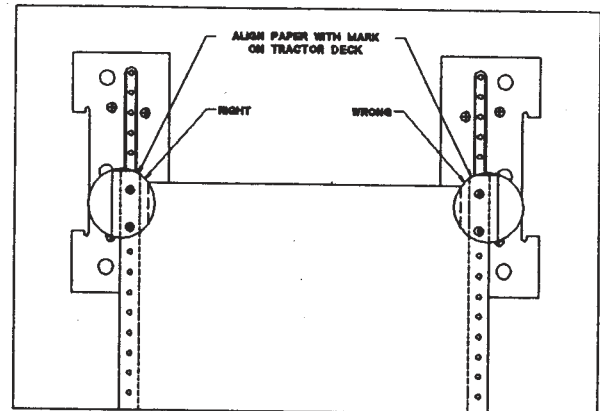

Fig. 8
7. Lay margin holes of form over feed pins. (Fig. 8)
3. Position tractors by releasing and sliding to proper form width. Raise tractor gates. Place forms on feed pins as shown in (Fig. 8). Close tractor gates and secure in position.